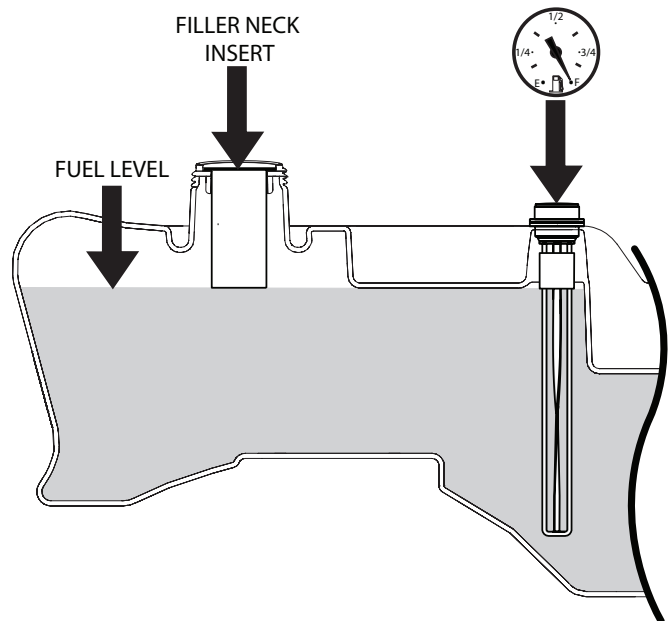

Figure 7-6. C.A.R.B. / EPA Phase 3 Fuel Level
Fill to the bottom of the filler neck insert (approximately 6-1/2 gallons on SFZ48/52 indicating Full (F) on the fuel gauge) at the beginning of each operating day. See Figure 7-6. Do not overfill. Use clean, fresh unleaded gasoline with a minimum octane rating of 87 and a maximum of 10% Ethanol.